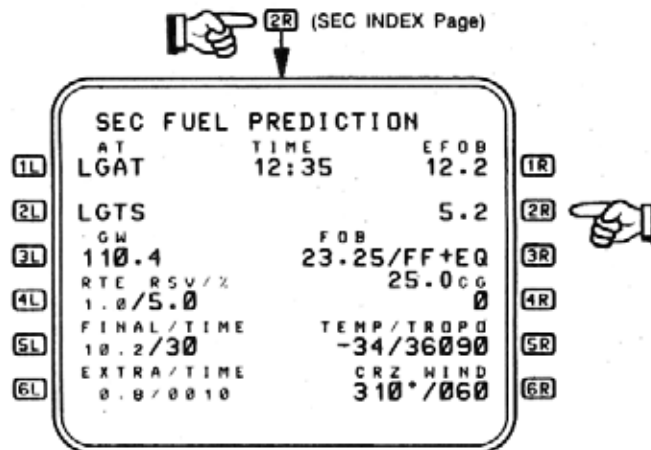

Figure 4-3
For the SEC FUEL PRED page in Figure 4-3, differences from the active FUEL PRED page include:
- 3L GW and FOB** - Aircraft gross weight and fuel on board are **3R** displayed but cannot be changed. Before engine start, this field displays dashes. After engine start, the values in the active flight plan are displayed (see Figure 4-3).